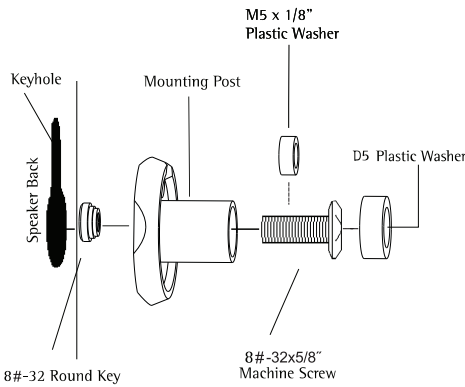

Figure 4
- Loosely pre-assemble the mounting post with the 8#-32x5/8" machine screw and key hole nut (Figure 4).
- Put tension on the assembly by gently pulling back on the speaker mount post while tightening the 8#-32x5/8" machine screw (Figure 4).
- If the post does not tighten securely against the housing, it will be necessary to use the M5 x 1/8" plastic washer as a spacer under the head of the 8#-32 x 5/8" machine screw (Figure 4).